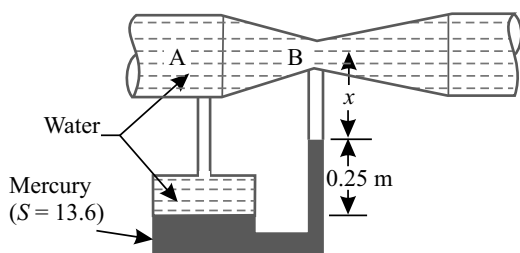

Fig. 2.48
15. Fig. 2.48 shows a mercury manometer fitted to a venturimeter in which water is flowing. Determine the difference of pressures between the points A and B. [Ans. -18.94 kN/m^2]